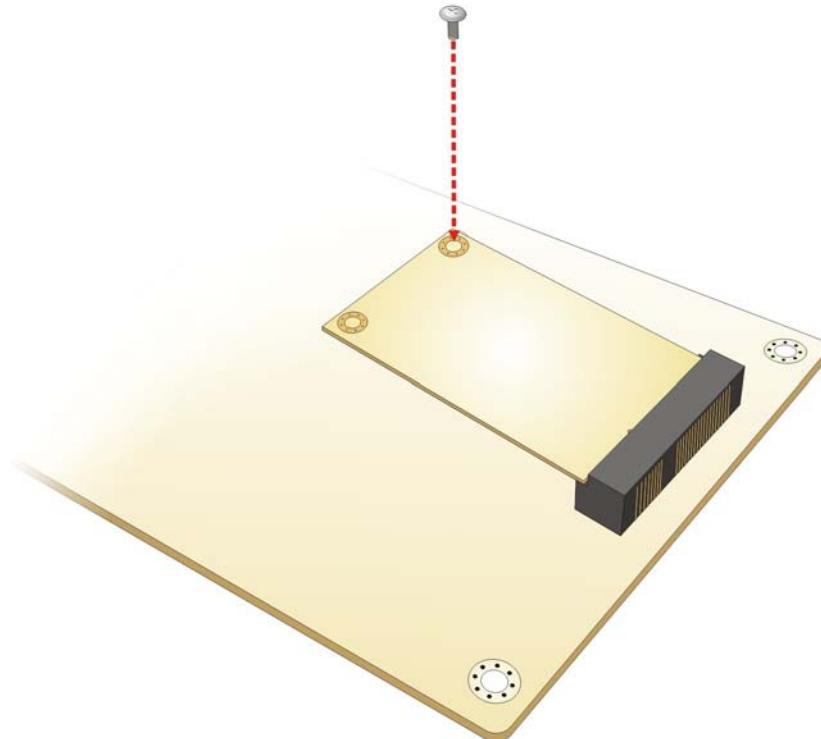

Figure 4-5: Securing the Full-size PCIe Mini Card
Step 5: Secure the full-size PCIe Mini card. Secure the full-size PCIe Mini card with the retention screw previously removed (**Figure 4-5**).
Step 4: Secure the half-size PCIe Mini card. Secure the full-size PCIe Mini card with the retention screw previously removed (Figure 4-5).